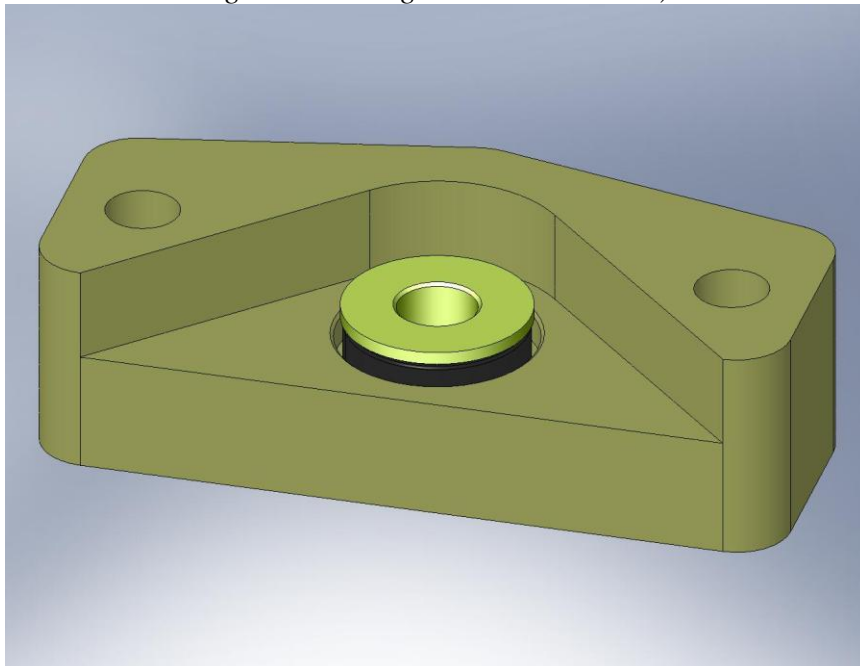

Figure 3.56. Conversion Bushing sitting inside the bearing.
- Insert **Spring Pull-Down Conversion Bushing** (D071304) through top side of combination bearing, as shown in Figure 3.56. (*The **Bushing** allows us to use the metric bearing with our English ACME Screw.*)